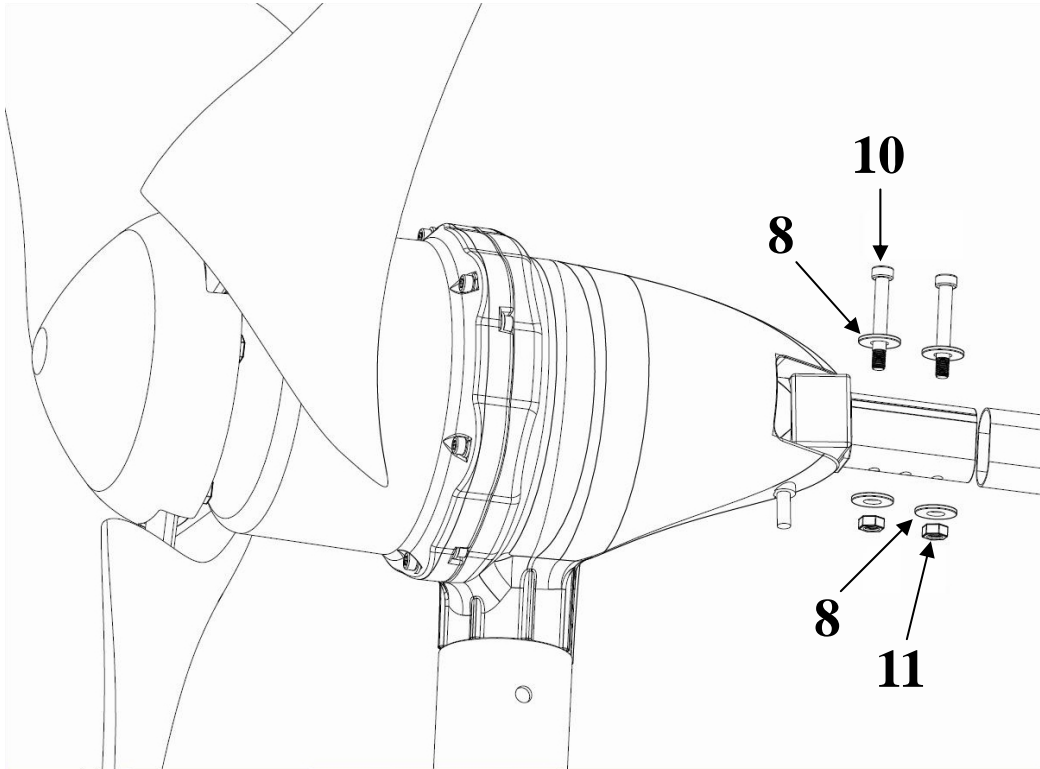

Figure 5 Assembly of tail and tail plug
- (2) Attach the tail assembly to the central body assembly using two 8mm-diameter bolts(10). To refer Figure 5, firstly put one flat washer(8) through the bolt(10), insert them through the tail and nacelle, put another flat washer(8) to the bolt, apply Loctite to the thread, and fasten with a nut(11).